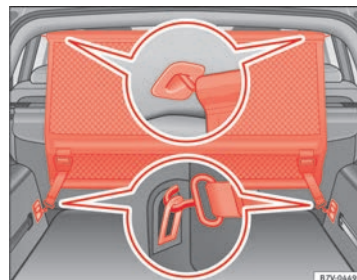

Fig. 94 In the luggage compartment: Install the net partition behind the second row of seats.
- Hook in the net partition on the left-hand side roof support ⇒ fig. 94 ①. To do this, guide the rod from up to down.
- Secure the net partition hooks into the straps in the front of the luggage compartment ② then tighten them. ▶